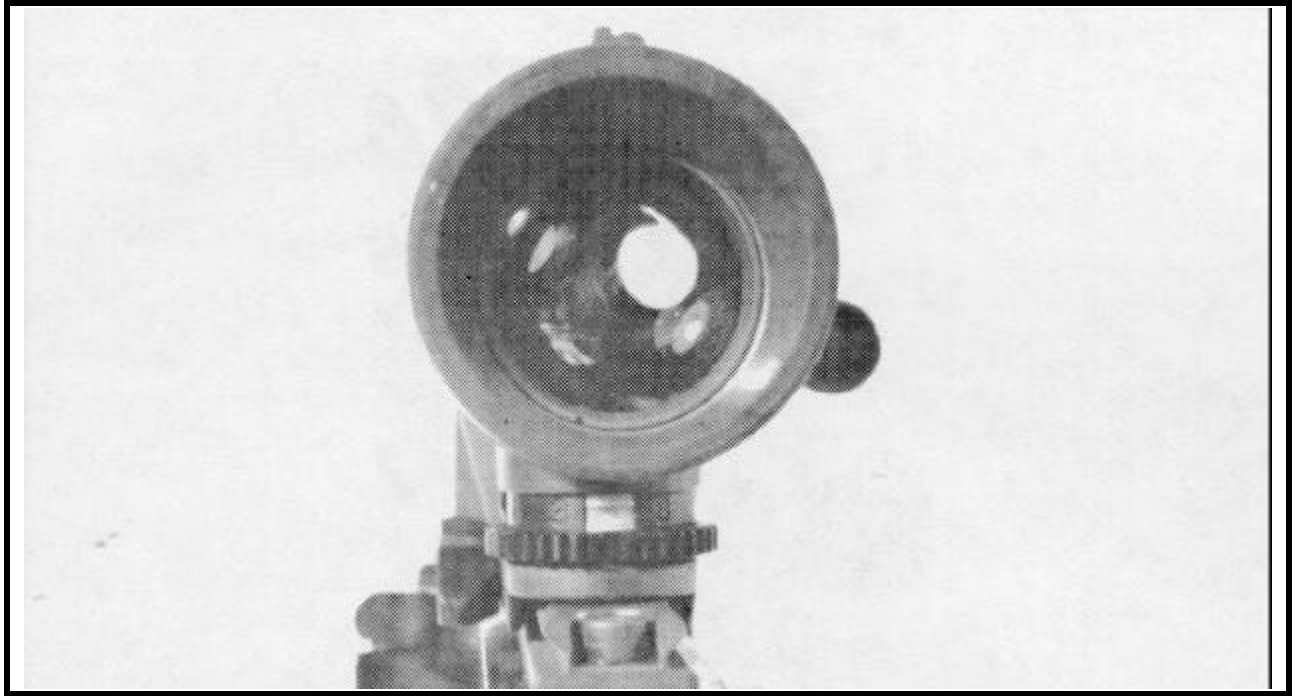

Figure 2-23 Rear Sight
- a. The C-79 optical sight is mounted on the feed cover. It is adjustable laterally and for ranges from 200 to 800 m in 100 m increments (see Figure 2-23). To adjust the sight for range, turn the range/elevation dial until the desired number clicks in line with the index line;
- (1) to the left (counter-clockwise) to move the MPI to the left,
- (2) to the right (clockwise) to move the MPI to the right; and